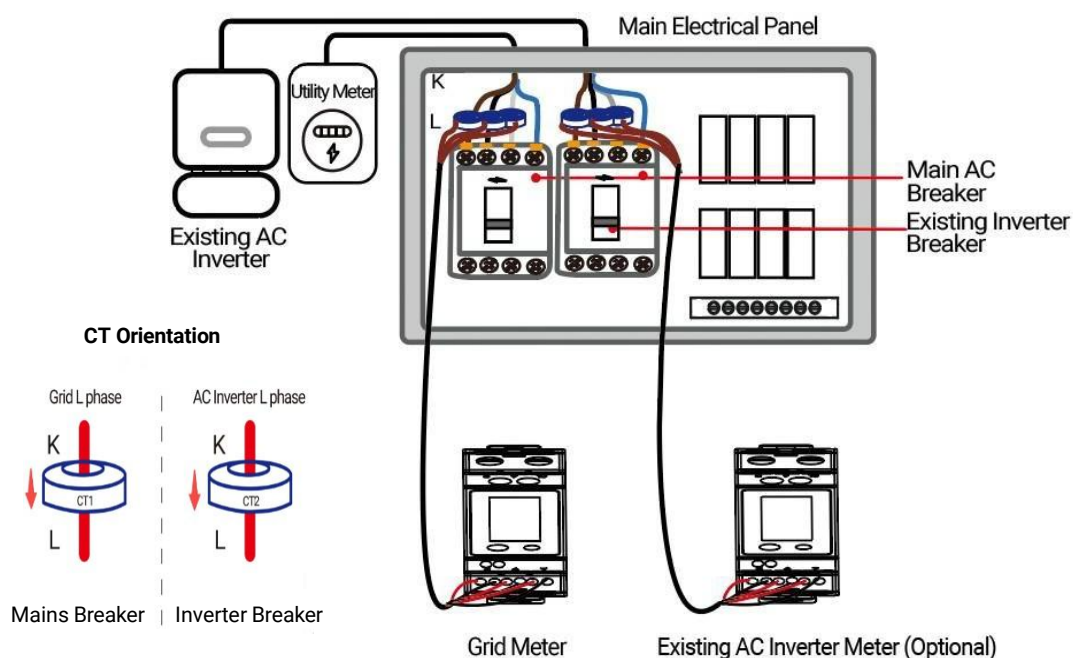

Figure 6-3
- Finally, connect the RJ45 wire between the Meter terminals and EP Cube PCS Com1 Terminals. Terminate the one end of the RJ45 wire inside the Smart Meter and connect the other end onto the EP Cube PCS Com 1 port. (Refer to Figure 6-3)
- Connect Grid meter to EP Cube PCS1 Com1 meter 2 port and connect the 3rd inverter meter to EP Cube PCS1 meter1 port. (Refer to Figure 6-3)